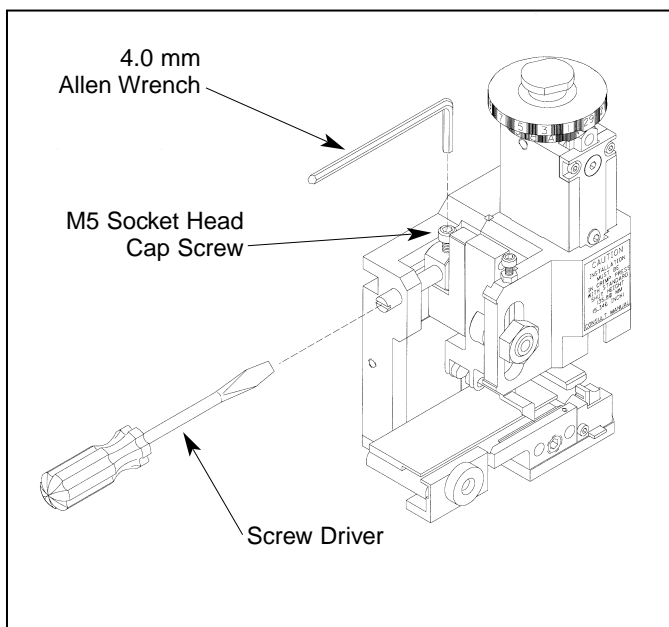

Figure 2.3.5.3 Forward Feed Positioning
- 2.3.5.3 Loosen the M5 socket head cap screw and turn the feed adjusting screw to reposition the terminal. To shorten the feed turn the adjusting screw clockwise; turning the adjusting screw counter-clockwise will lengthen the feed position. (Refer to Fig. 2.3.5.3 Forward Feed Positioning)